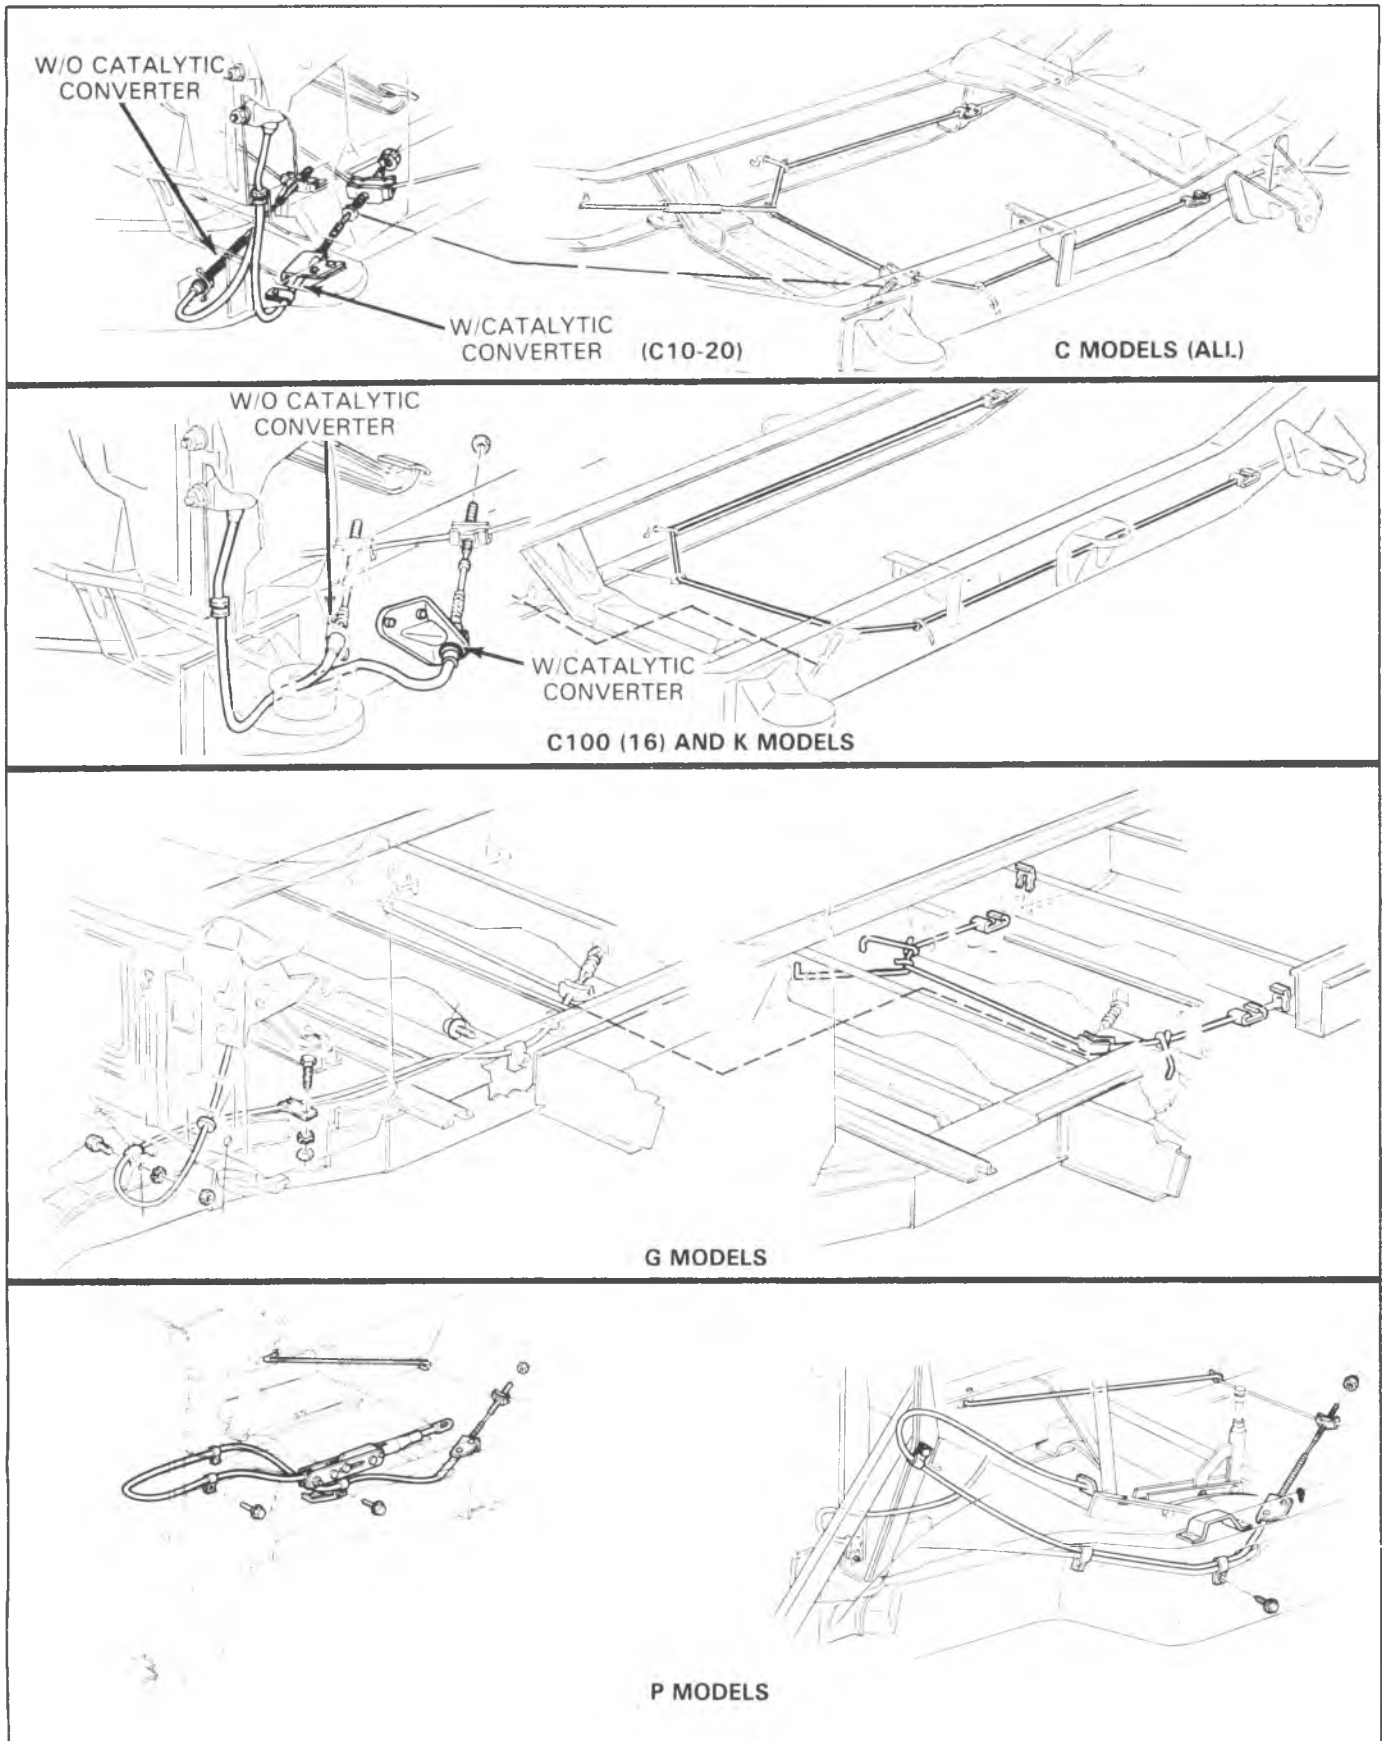

Fig. 5-10--Parking Brake System--Typical
**PARKING BRAKE CABLES (Fig. 5-10)****Front Parking Brake Cable Replacement**